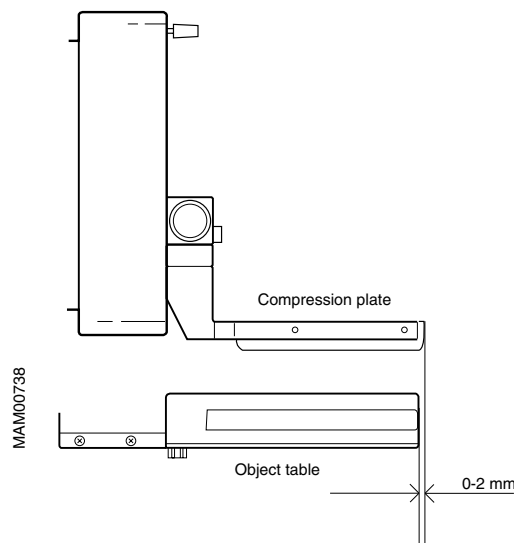

Fig. 1
3. Lower the compression plate to the Plexiglas plate. Apply a compression force of 3 - 5 kg. The plastic tray will now adjust itself so that it lies flat against the Plexiglas plate. Before tightening the four screws, check the alignment of the compression plate and the object table at the front edge (chest-wall side) (Fig. 1). Adjust by displacing the plastic tray, if necessary. Tighten the screws.